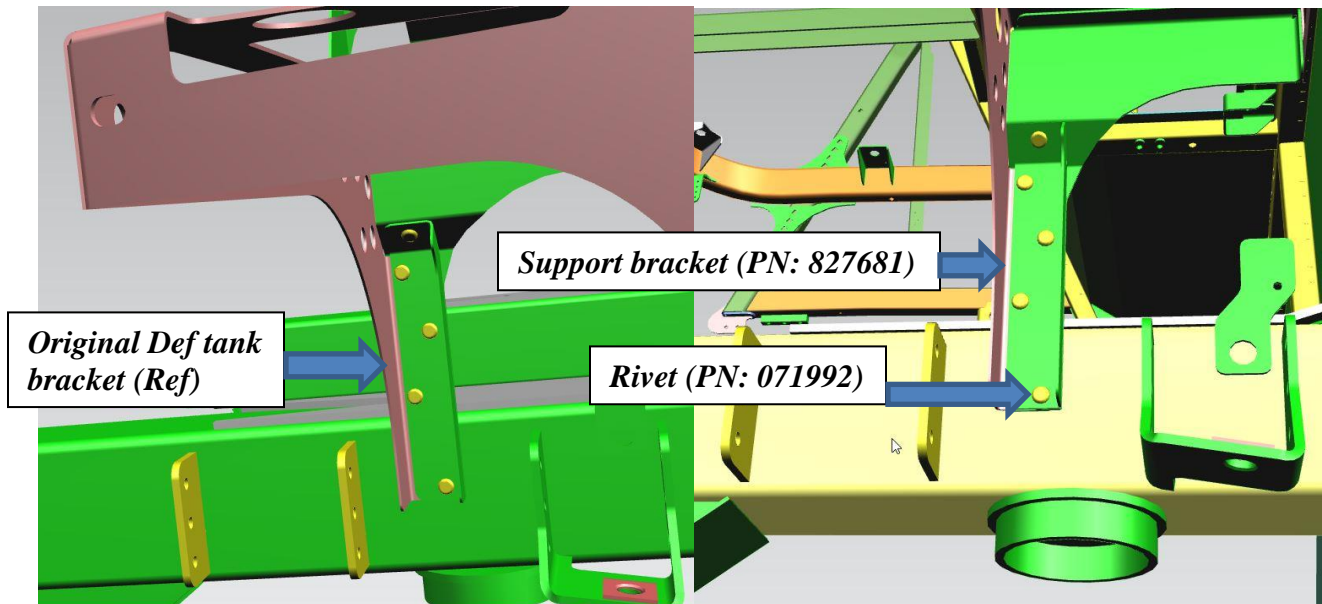

FIGURE 1: VIEW OF INSTALLATION OF THE DEF TANK SUPPORT BRACKET
11. Position the bracket in place and mark out the hole locations. Refer to Figure 1.